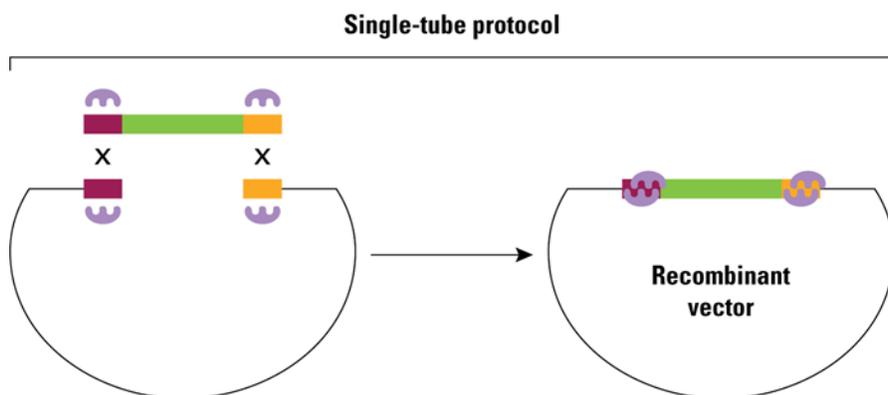

Figure 3. The In-Fusion HD Single-Tube Cloning Protocol.
You need to clone your gene of interest into the corresponding pLVX-DD vectors so it is in-frame with the destabilization domain (DD) encoding sequence. We recommend using the In-Fusion HD Cloning System (Section III.K; Figure 3), a revolutionary technology that permits highly efficient, seamless, and directional cloning. The technology is described at www.clontech.com/infusion